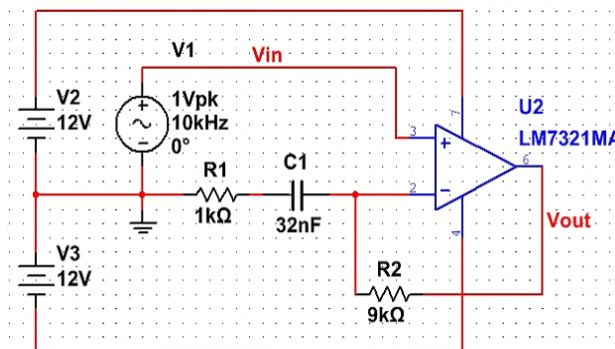

Fig. 2: Op-amp Circuit.
- PE3. Consider the circuit shown in Fig. 2. Sketch the magnitude of the transfer function, T , and clearly indicate the -3 dB point. Is this a high-pass, low-pass, band-pass, or notch filter?
Note: This is equivalent to plotting V_{out} , since V_{in} from Figure 2 is represented by the phasor $1\angle 0$.
Create a new blank schematic in NI Multisim and construct the circuit shown in Figure 2. (Note: In BASIC \rightarrow CAPACITOR, and there is no 32nF. Pick one and you can change the values under properties once it is placed in the circuit.)
- E4. Conduct an AC simulation and produce a bode plot for the op-amp circuit in figure 2. Choose frequency ranges based upon the calculated value in the lab preparation.
- E13. Assume that the design is only acceptable if $|T(j\omega)|$ at 10 kHz lies within $\pm 20\%$ of the ideal value (Results obtained by using all components with the original value shown in Fig. 2). What is an acceptable range for R1 in this circuit? You will need to edit the sweep conditions in E7 and run a few more simulations to get a more accurate range for R1. Save a clear screenshot with all measurements that help you get the conclusions. Write calculations on your lab book.